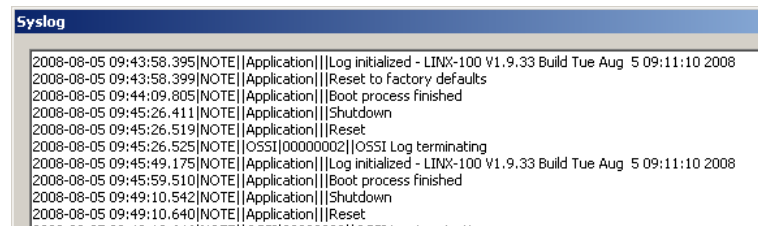

Figure 92: System log window.
3. When the upload is finished, click on **Show System Log**. The system log window appears as shown in Figure 92.